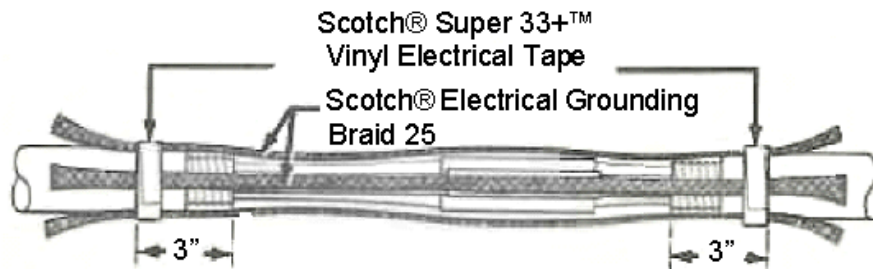

Figure 3
2. Position the 3 braids across splice opening and hold in place with Scotch® Super 33+™ Vinyl Electrical Tape at 3" (76 mm) beyond ends of cable armor. (Figure 3)